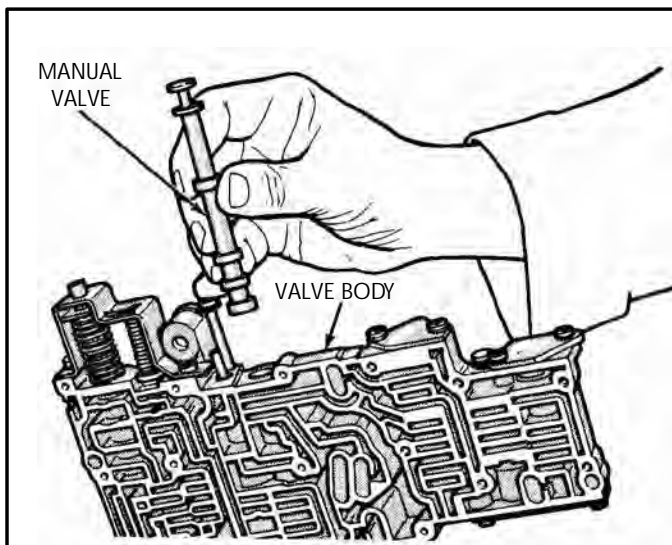

Figure 105
14. Install the manual valve into its bore in valve body, as shown in Figure 105.